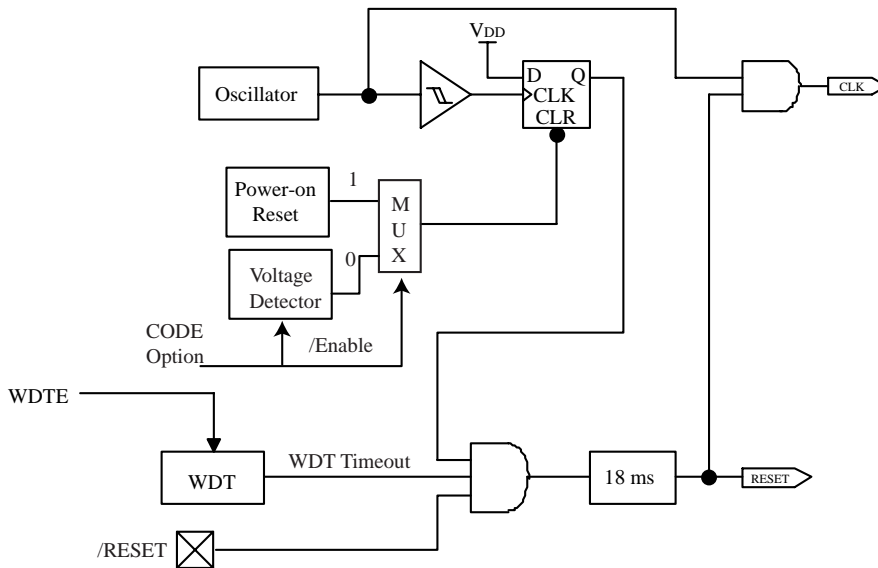

Fig. 9 Block diagram of Reset of controller
- (1) Power-on reset
- (2) /RESET pin input "low", or
- (3) WDT time-out (if enabled).
Note that only power-on reset, or only voltage detector in Case (1) is enabled in the system by CODE option bit. Refer to Fig. 9. The device will be kept in a RESET condition for a period of approx. 18ms (one-oscillator start-up timer period) after the reset is detected. Once the RESET occurs, the following functions are performed.